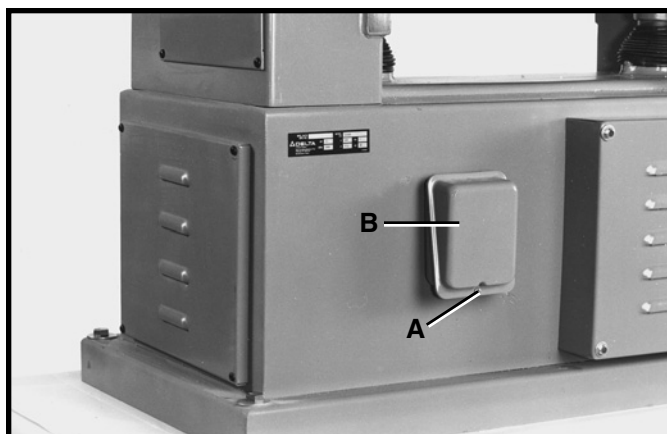
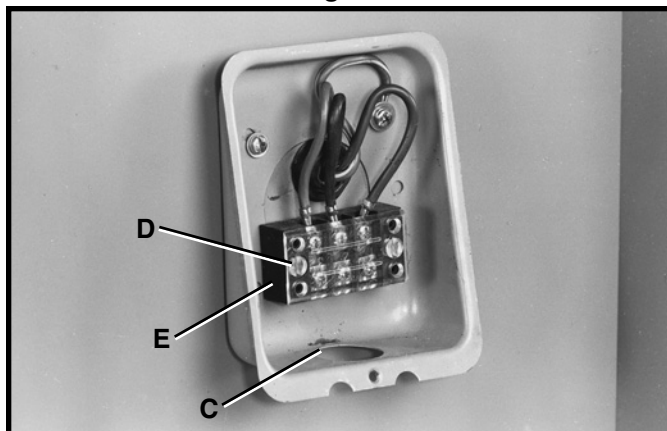

Fig. 10
Fig. 11
Loosen screw (A) Fig. 10, and remove cover (B) from terminal box located at the rear of the machine. Bring the power line up through the hole (C) Fig. 11, in terminal box. **NOTE:** Strain relief and power cord clamp are not supplied with the machine. Remove plastic shield (D) Fig. 11, from terminal strip (E).